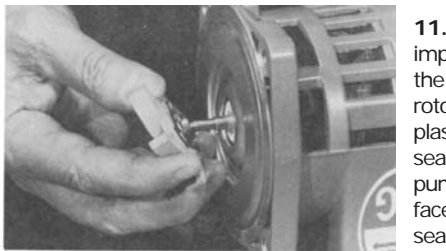

FIGURE 7
11. Place the seal & impeller assembly onto the pump shaft: push rotor fully forward with plastic tool. Slide the seal & impeller onto pump shaft until seal face contacts ceramic seat. See fig. 7. Tighten-down (left-hand thread) impeller nut. Re-assemble pump and re-connect power supply. **Never run a pump dry.** Please lubricate pumps with 1 teaspoon of oil at the start of every heating season. Order the tubes of B&G lubricating oil — BG1145 or use Mobil 1 motor oil.